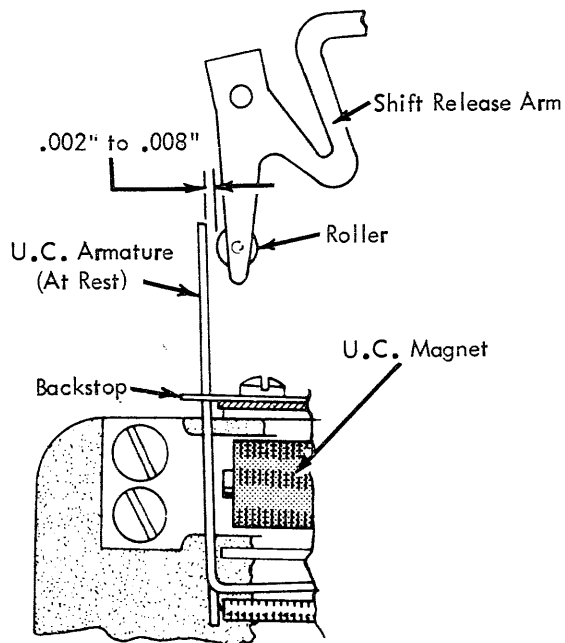

FIGURE 39. U.C. Armature Backstop
6. UC Armature Backstop (Fig. 39) - Position (armature at rest) so that the UC armature clears the release arm follower by .002" to .008".